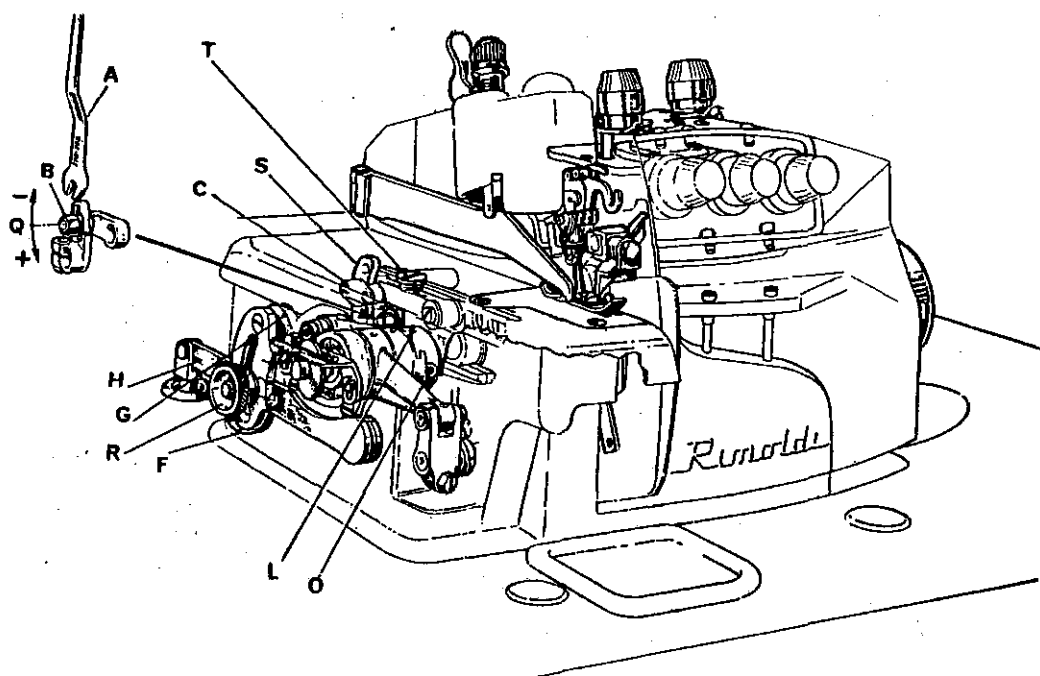

fig.16
## 10. Feed (fig. 16).
**e) Stitch length adjustment (fig. 16)**